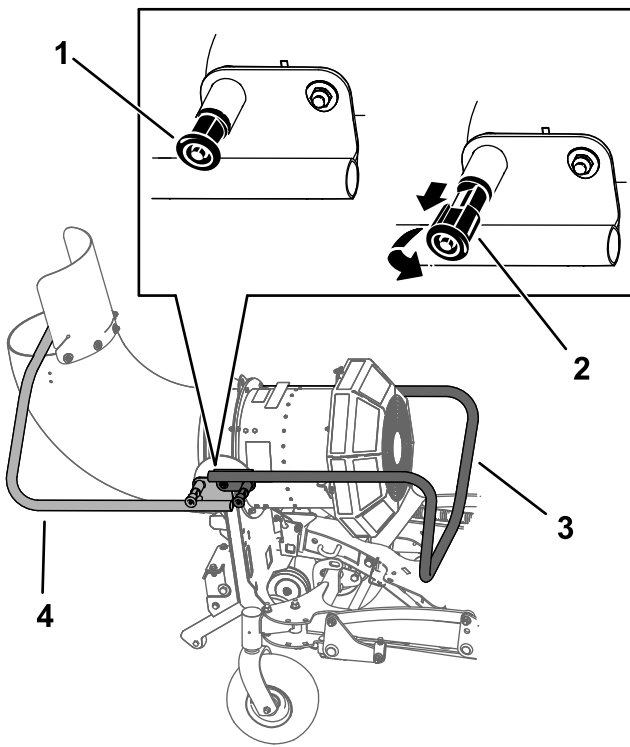

Figure 25
4. Pull out the kickstand locking pins on both sides of the machine, rotate them 90 degrees so that they are disengaged, and rotate the kickstand away from the machine (Figure 25). Engage the pins and ensure that they snap into position.